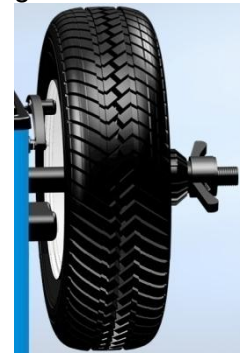

Fig. 21
- Move the Distance measuring rod outwards till it touches the Inner rim (Refer Fig.21). Keep the Distance measuring rod in the same position for atleast 3 seconds. The Rim distance will be updated on the window followed by an Audio indication.